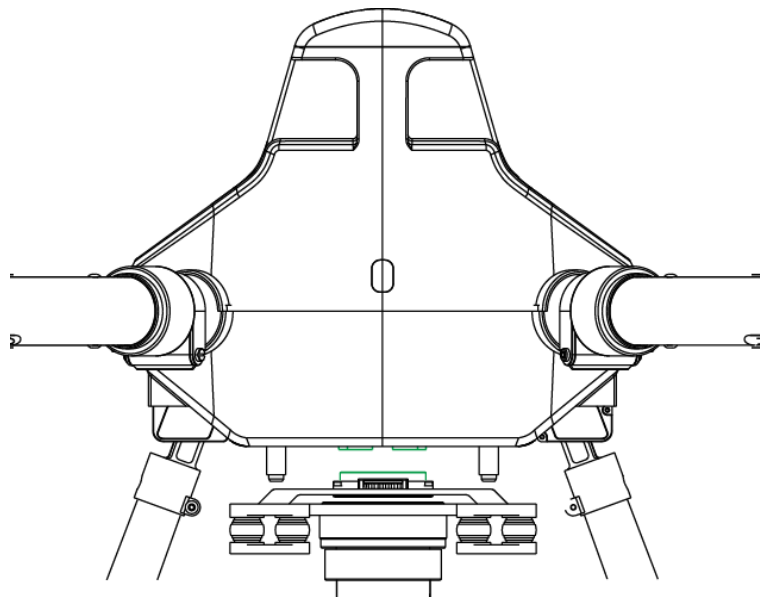

Figure 3-10
Step 1 Insert the upper port on the vibration damper plate of the PTZ camera into corresponding port at the bottom of the aircraft, as shown in Figure 3-10.